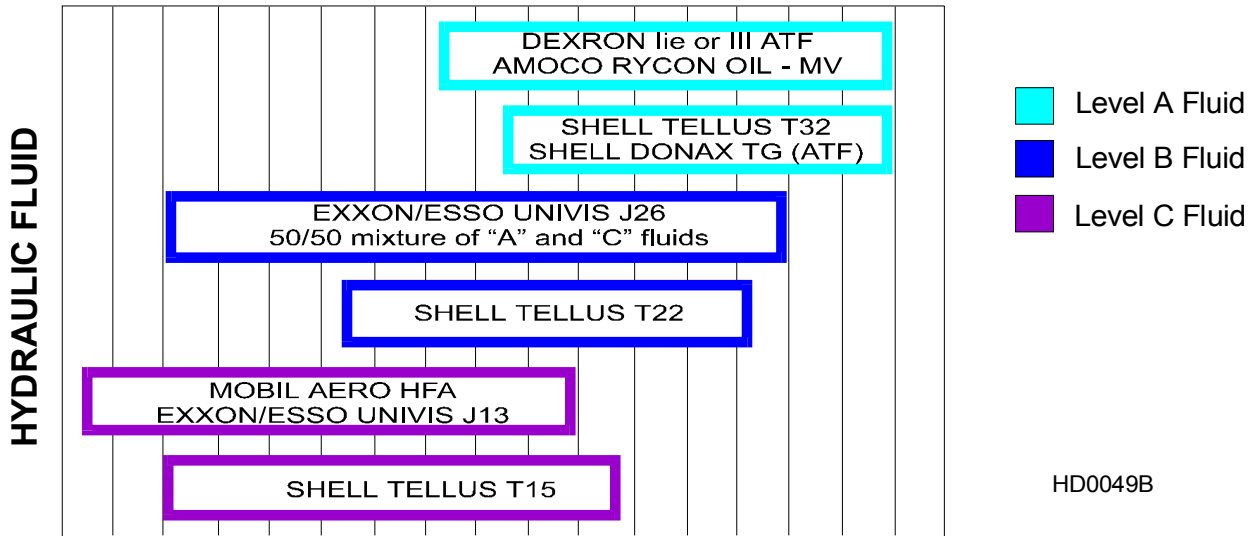

FIG. 5-5
**See Figure 5-5.** If you are operating in temperatures -20° to 100° F (-29° to 38° C), use an all-weather hydraulic fluid such as Exxon Unavis J26. For alternate fluids and/or other temperature ranges, refer to the chart below. Operating above the recommended temperature range of a fluid could result in excessive pump wear. Operating below the recommended temperature range could result in reduced hydraulic cylinder speed. To change fluid types, replace one gallon of the current fluid with one gallon of the alternate fluid.